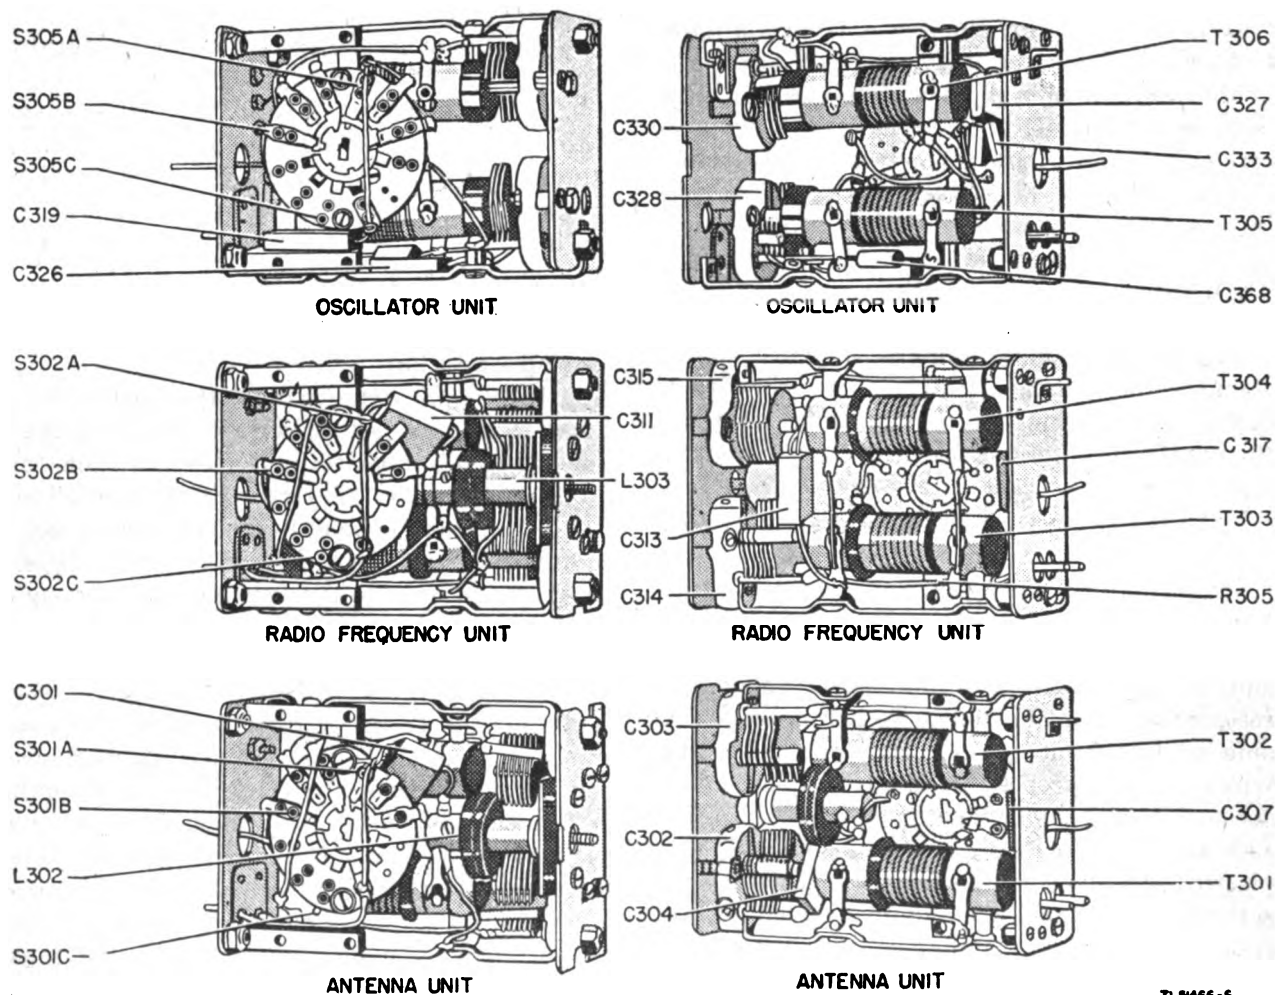

Figure 27. Antenna, radio-frequency and oscillator coil assemblies, Radio Receiver BC-652-A.
*b. REPAIR.* See figure 27 for parts location within the coil assemblies.